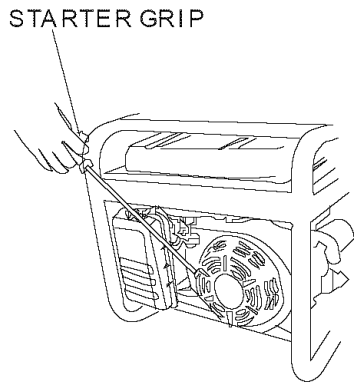

Figure 9- Pulling the start cord
7. Pull on the recoil starter handle slowly until a slight resistance is felt (see figure 9). Then pull quickly to start the engine. Return cord gently into the machine. Never allow the cord to snap back.
8. If engine fails to start, repeat step 7. NOTE: After repeated attempts to start the engine, please consult the troubleshooting guide before attempting again. If problems persist please call **(800) 232-1195 M-F 8-5 CT**.